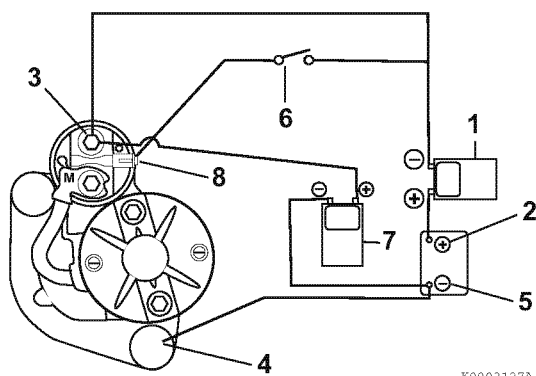

Figure 8-5
1. Connect an ammeter (1, **Figure 8-5**) in series between the battery positive (+) terminal (2, **Figure 8-5**) and the main positive (+) terminal (3, **Figure 8-5**) on the starter motor.
2. Connect a wire lead between the mounting base of the starter motor (4, **Figure 8-5**) and the battery negative terminal (5, **Figure 8-5**).
3. Connect a voltmeter (7, **Figure 8-5**) to the battery negative (-) terminal (5, **Figure 8-5**) and the main positive (+) battery terminal on the starter motor (3, **Figure 8-5**).
4. Install a switch (6, **Figure 8-5**) in a circuit between the battery positive (+) terminal (2, **Figure 8-5**) and the starter solenoid switch terminal (8, **Figure 8-5**) on the starter motor.